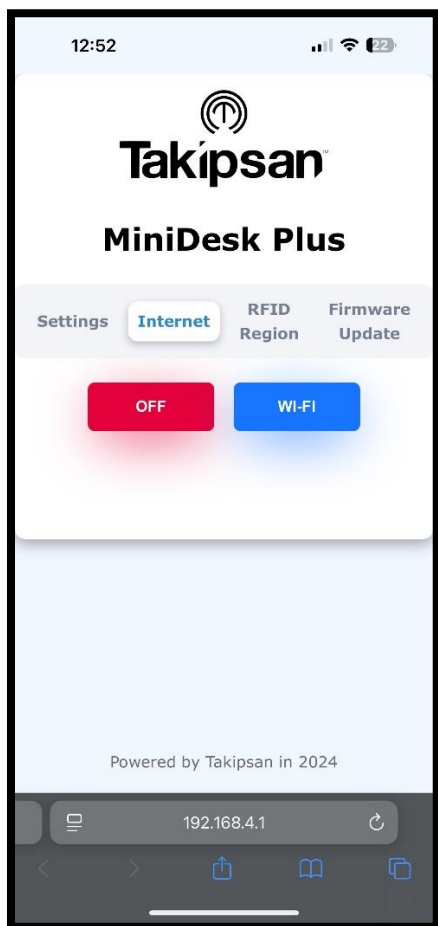

Figure-8
- When the interface connection of the device is successfully made, the user needs to press “WI-FI” button under the Internet section. (Figure-8)